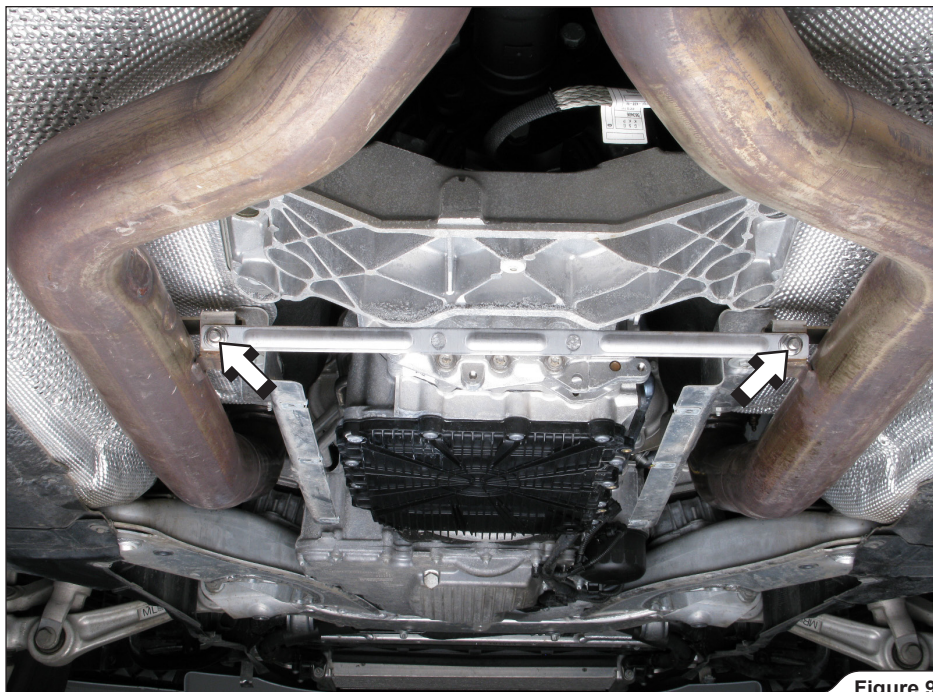

Figure 9
7. Unscrew the marked bolts and remove the link pipes' linkage (**Figure 9**).